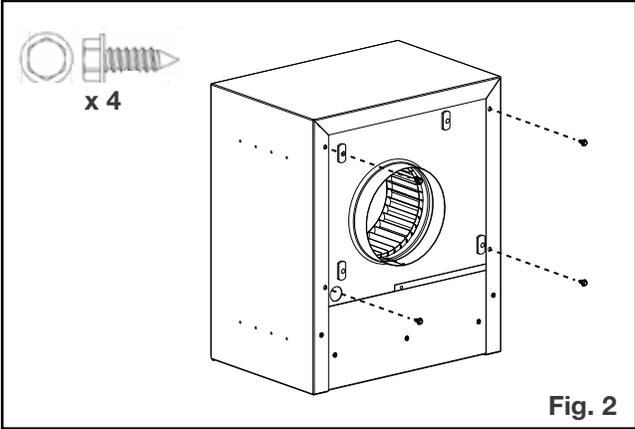

Fig. 2
2. Secure the blower housing assembly to the exterior housing assembly using 4 screws (supplied) (**Fig. 2**).